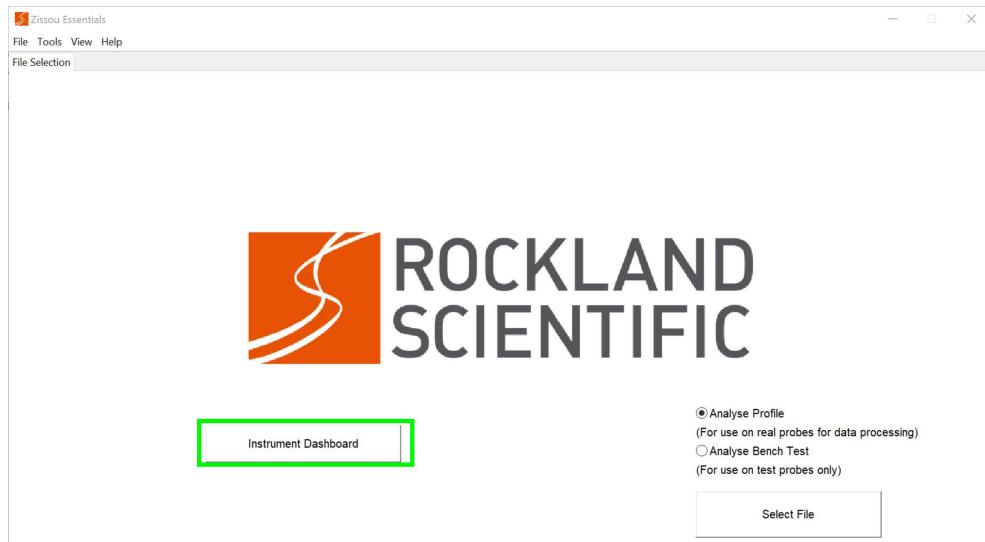

Figure 27: The “Instrument Dashboard” button (green) on the Zissou Essentials home page.
2. On the software home page, hit the “Instrument Dashboard” button (Figure 27). The option is also available under the “Tools” drop-down menu.